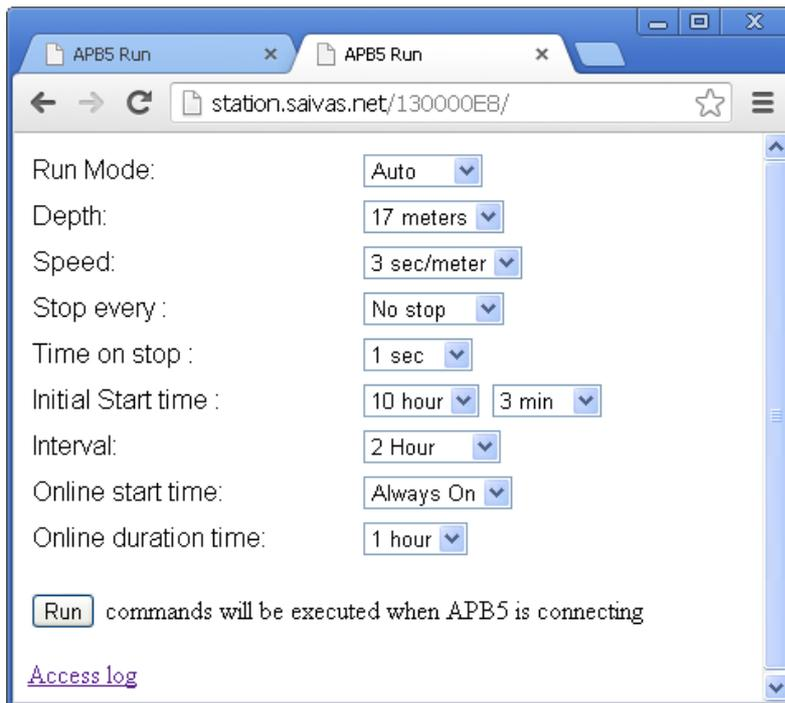
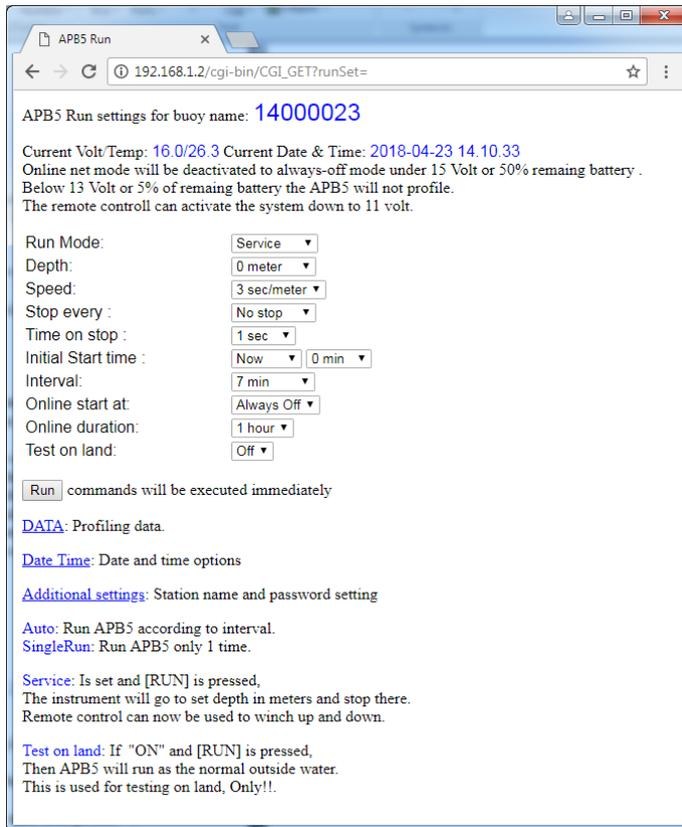

Fig 9. The Operation configuration page for the APB5 Top System.
Fig 10. Screenshot of the profile configuration page using WIFI access.
- 4) Test communication between CTD and web server (see page 9). **NB!** This test requires that the run settings in the operation setup (page 10) is set to [Single run] in the Run Mode, and [ON] in “Test on land” (See Fig 10) and that there is a least 1 m free clearance under the buoy. When pressing [Run] the system will perform a single run. The sensor will always stop for about 20 seconds for climate calibration half a meter below the park position, before proceeding. This test will confirm that there is communication between the CTD and the web server.
2. Via WIFI(system online): Set the unit in service mode from the “Aprun.htm” APB5 internal web page (Fig 10).
The system is accessed and configured via the remote control, the internal APB5 web page or the web page for the APB5 Top System. The choice of these different access ways for operation is partly depending on the available power supply to the system. Under limited power supply, such as when the buoy is supplied by its own solar panels, the APB5 should preferably be offline in ‘sleeping’ mode in between profiling tasks. When the APB5 is ‘sleeping’ the system can only be contacted via the remote control within a 50-60 m radius, and only between 9 am and 16 pm ‘buoy time’ (set under Time zone and DNS settings). Direct remote access via the internet is only possible when the APB5 is ‘awake’ and online (these periods are optionally selected and depends on the profiling interval settings, see Fig 10). The ‘sleeping’ mode is thus necessary in order to save power. In case of external cable supplied power, the system can be continuously online, as power is no longer a limitation.
When the APB5-system is in “ALWAYS OFF” mode or “WINDOW TIME” – changes in settings can only be done from this page (Fig 9). APB5 will intermittently go online and contact the APB5 Top System (Table 1) for two-way communication. It will also read and install new settings in same request. Setting options in the command page of the “APB5 Top System” (Fig 9) are similar to the APB5’s internal webpage “Aprun.htm” (Fig 10, page 14).
The configuration and run page (Fig 9) consists of the following operation options:
When there are changes (Set = set is generated by Fig. 9.)
Line 2: Depth and running Mode, this can be changed on the website *aprun.htm* (Fig 10)